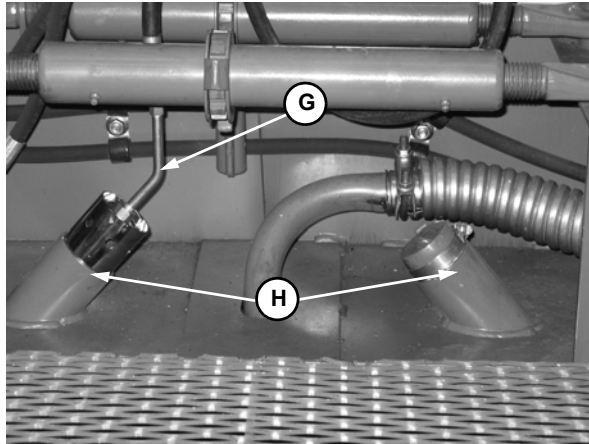

Fig. 25 - Burner and Support Tubes
6. Remove one burner (G, Fig. 25) from the burner support tube (H, Fig. 25) and light with a striker. Place the burner back into the burner support tube.